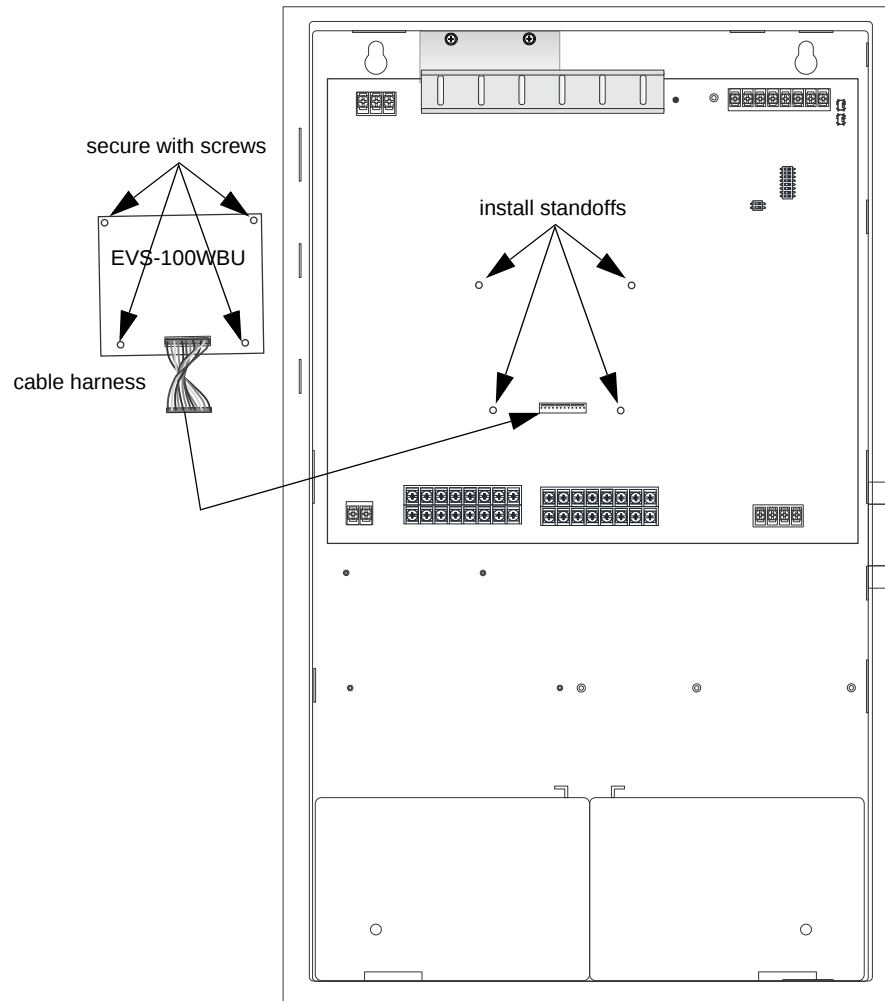

Figure 4.48 Mounting the EVS-100WBU
2. Secure the four standoffs supplied with the EVS-100W to the board as shown in Figure 4.48.